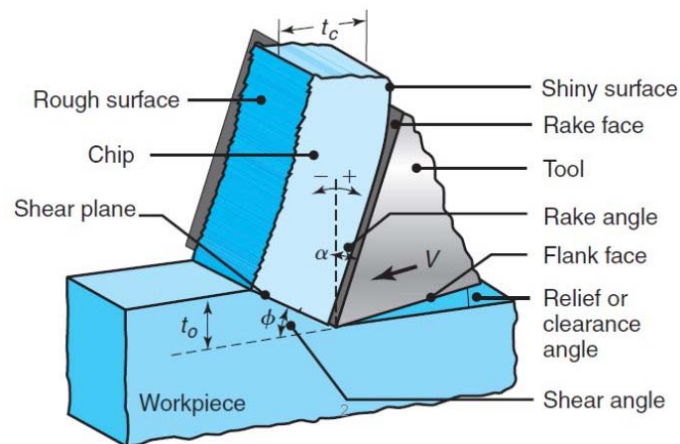

Figure Q5A: Merchant model of orthogonal cutting.
C. In the cutting process, referring to Figure Q5A, rake angle can be used to control the chip thickness. Discuss how controlling rake angle can play an important role on the cutting tool life.